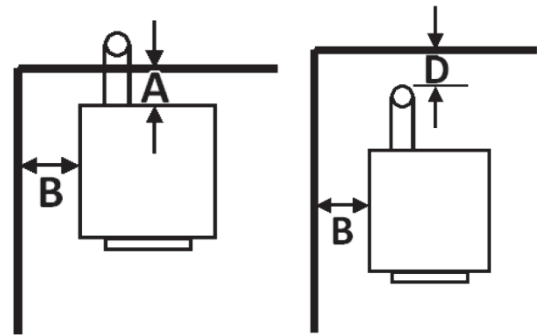

FIGURE 1
The Drolet ECO-65 has been tested and listed for installation in residential and mobile home. (refer to figure 1 to 3)
1. Position stove, adhering to clearances shown in Figures 1 & 2.